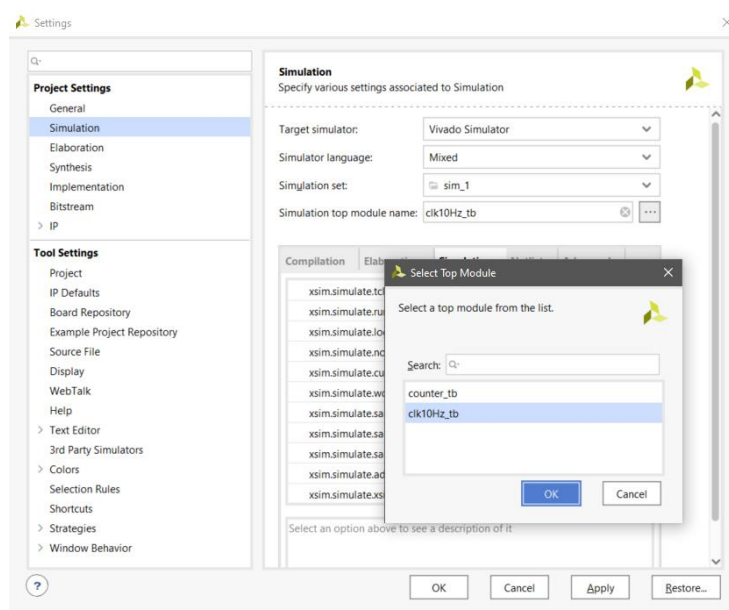

Figure 39
3. Check if the **Vivado Simulator** is selected in the **Target simulator** field and change the **Simulation top module name:** to **clk10Hz_tb** by clicking on the ... icon at the right end of this parameter line (Figure 39)